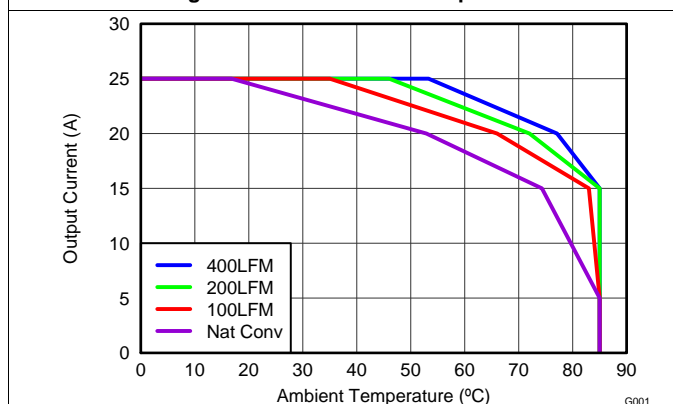
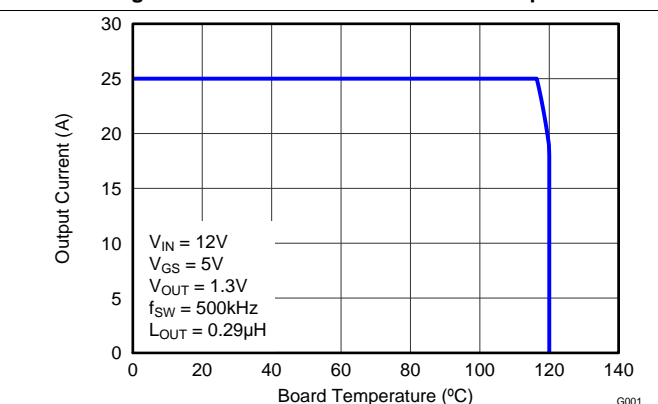

Figure 3. Safe Operating Area – PCB Horizontal Mount
Figure 4. Typical Safe Operating Area
$T_J = 125^{\circ}\text{C}$, unless stated otherwise. The Typical Power Block System Characteristic curves Figure 3 and Figure 4 are based on measurements made on a PCB design with dimensions of 4.0 inches (W) x 3.5 inches (L) x 0.062 inch (H) and 6 copper layers of 1 oz. copper thickness. See Application and Implementation for detailed explanation.
$T_J = 125^\circ\text{C}$, unless stated otherwise. The Typical Power Block System Characteristic curves Figure 3 and Figure 4 are based on measurements made on a PCB design with dimensions of 4.0 inches (W) x 3.5 inches (L) x 0.062 inch (H) and 6 copper layers of 1 oz. copper thickness. See Application and Implementation for detailed explanation.
The SOA curves in the CSD87588N data sheet provide guidance on the temperature boundaries within an operating system by incorporating the thermal resistance and system power loss. Figure 3 to Figure 4 outline the temperature and airflow conditions required for a given load current. The area under the curve dictates the safe operating area. All the curves are based on measurements made on a PCB design with dimensions of 4 inches (W) x 3.5 inches (L) x 0.062 inch (T) and 6 copper layers of 1 oz. copper thickness.